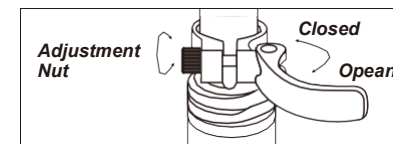

Fig.8 Opening and adjusting a quick release
- 5) Open the seat post quick release lever(Fig. 8). Insert the seat post into the seat tube to a sufficient depth so that the minimum insertion line is no longer showing.